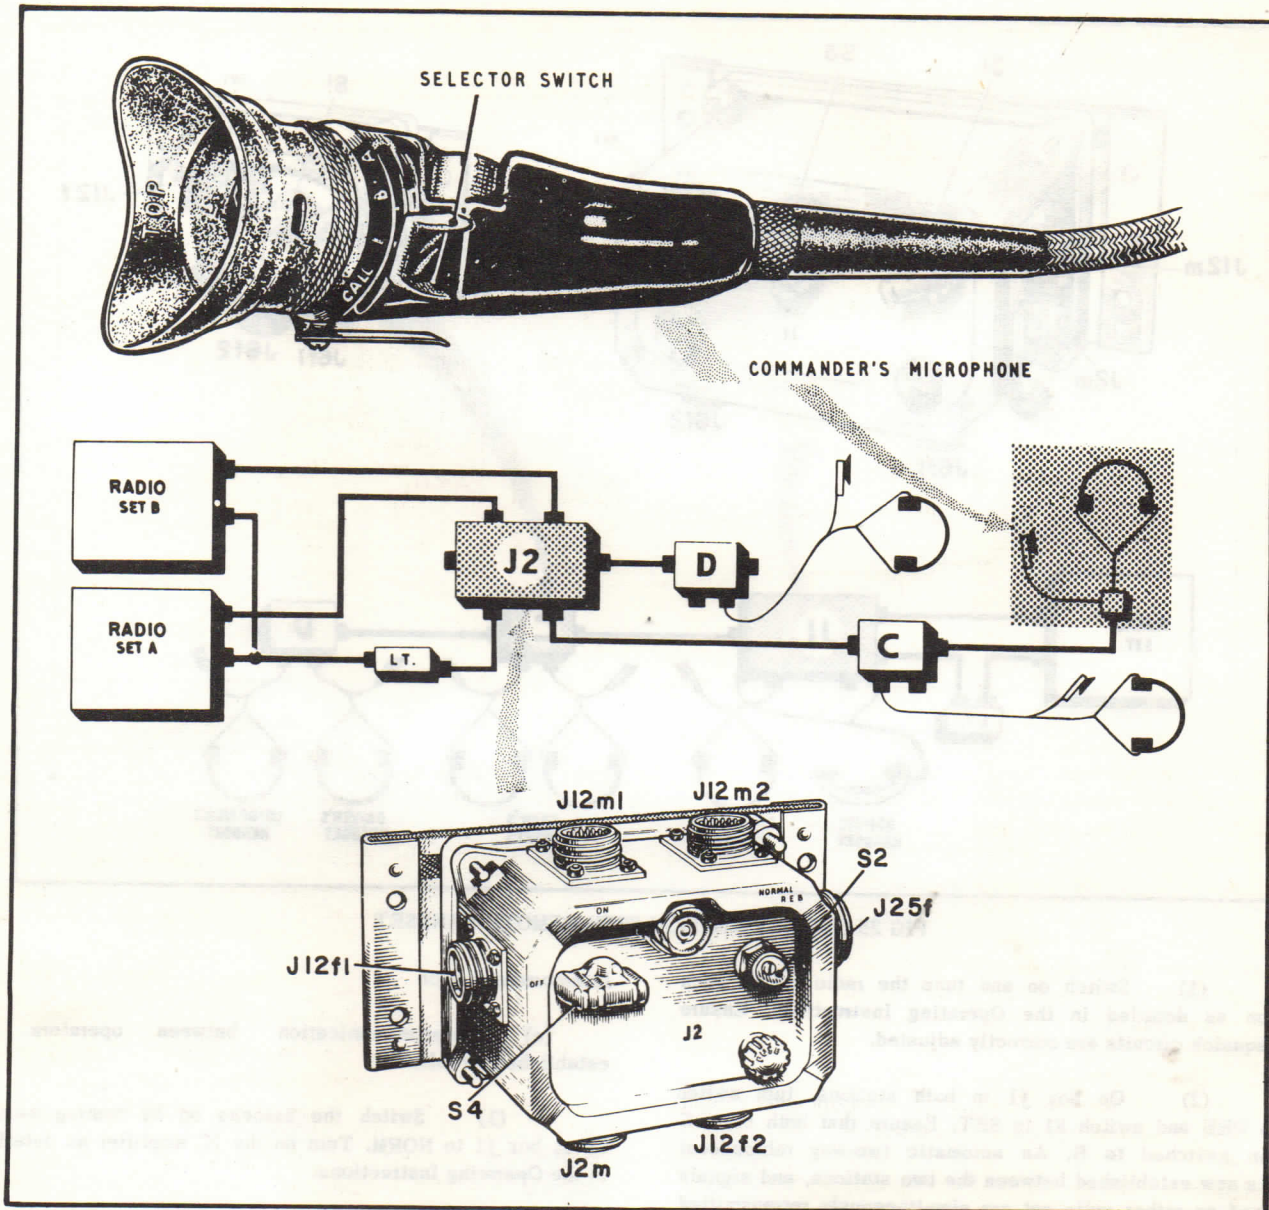

FIG 26 TWO SET STATION USING A
26. The Commander's headset provides the Commander with transmit and receive facilities on either radio set plus intercommunication with all operators. Choice of set or IC is selected from the switch on the microphone. The selector switch has a spring loaded CALL position as shown in Fig 26. The 12 contact plug from the commander's headset can be connected directly to a junction box J1 or J2, or to a control unit operator's C, as indicated in Fig 26, or to the similar socket on a control unit driver's D. All other units are connected in the normal way for a two set station.